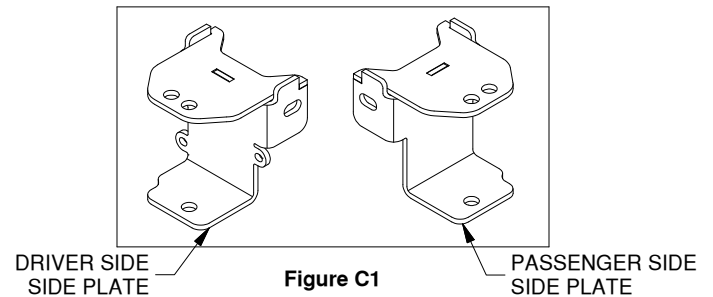
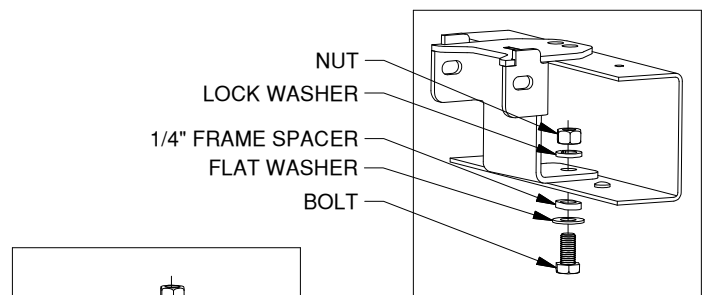

Figure C1
Figure C2
- Install side plates.** Using Figure C1, determine the driver and passenger side plates. Place the appropriate side plate on the inside of the frame with the small flanges fitting between the cross members. The top long flange will sit on the upper leg of the frame with the bottom long flange sitting on the top of lower leg of the frame. With each side plate in place insert carriage bolts through the square holes in the cross members and through the small flanges on the side plates. Place a flat washer, lock washer and nut on the bolts and leave loose at this time. Next, place a 5/8" x 1-1/2" bolt with a flat washer and frame spacer, as shown in Figure C2 & C3, through the oval holes in the frame. Two will go through the bottom frame leg using a 1/4" frame spacer and two in the top frame leg using a 1/8" frame spacer. After passing through the frame and side plate install a lock washer and nut.